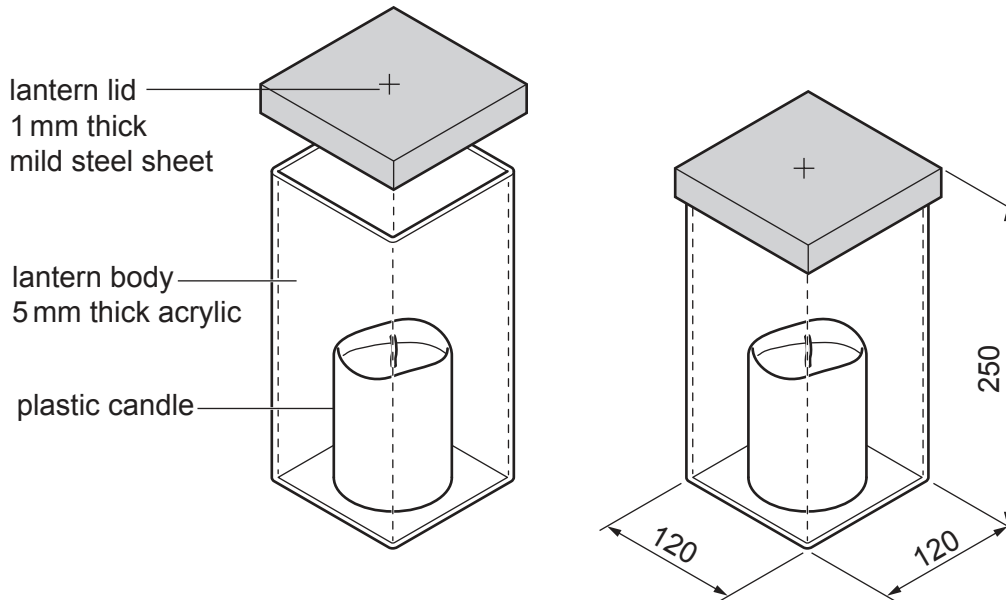

Fig. 11.1
- 11** Fig. 11.1 shows views and details of a garden lantern.